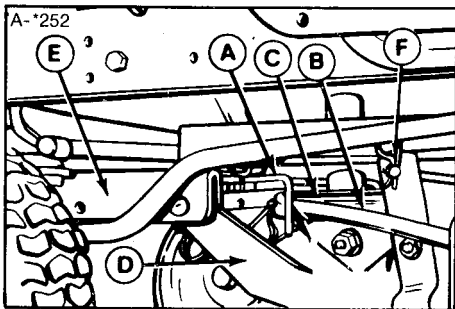
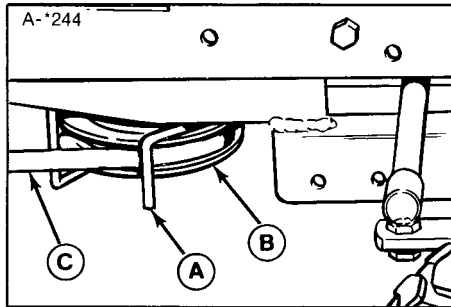
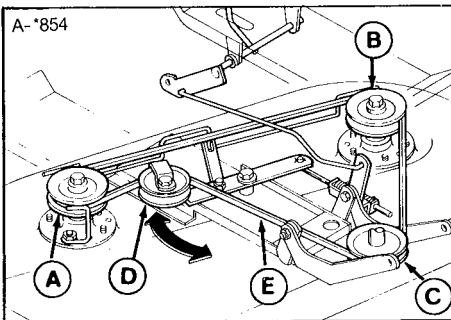

Figure 4. Left-Hand Belt Stop
Figure 5. Right-Hand Belt Stop
Figure 6. Mower Belt Pattern - 36"
- Slip the mower drive belt onto the PTO pulley (C, figure 4). Loosen belt stops as necessary. The left-hand belt stop (A) is shown in figure 4. The right-hand belt stop is shown in figure 5. Check routing of belt by referring to figure 6.